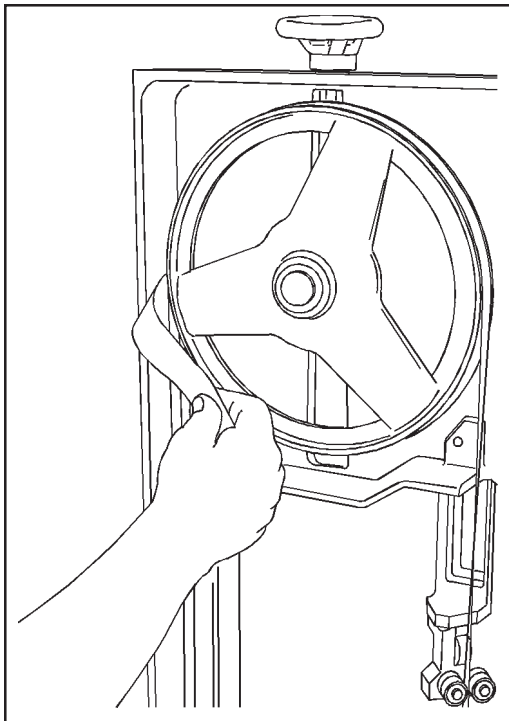

Figure 12: Checking blade tracking
9. As you adjust the blade toward the flange, insert a strip of paper between the blade and wheel as shown in *Figure 12* at the top of the next page.